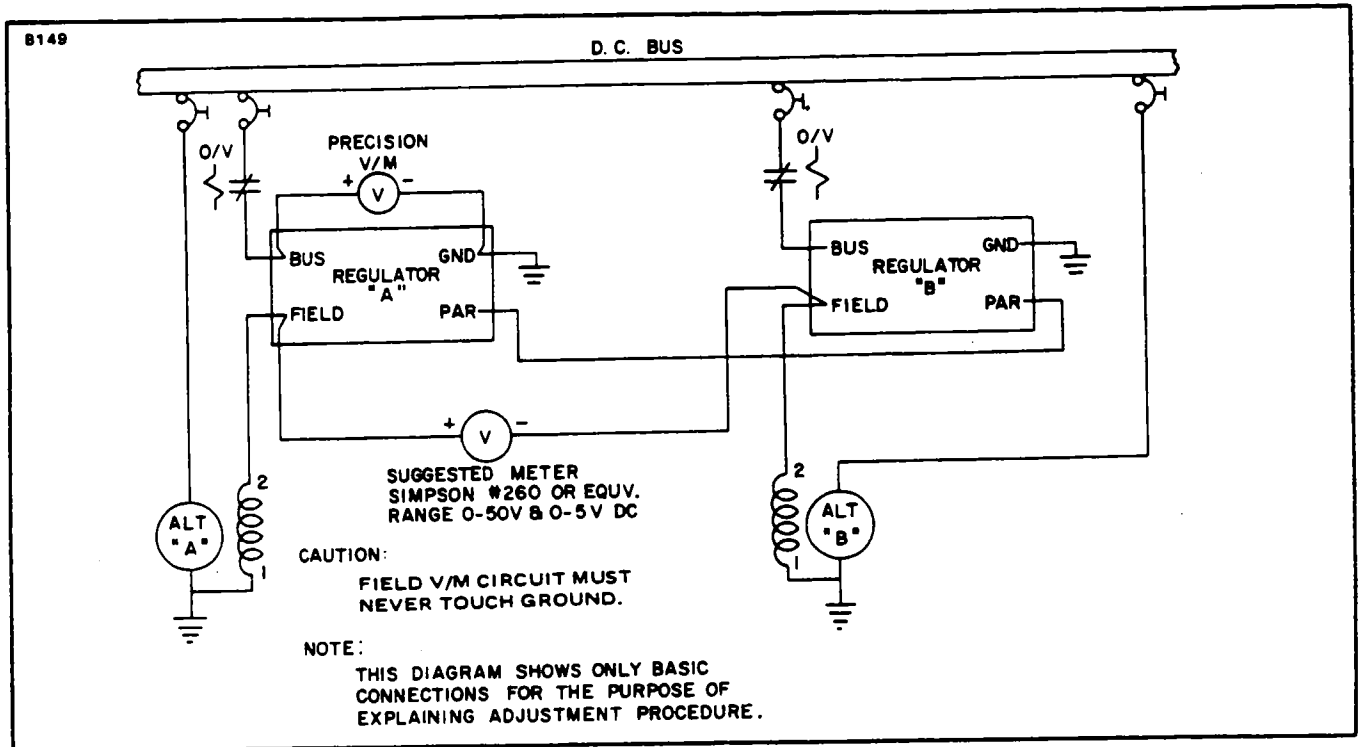

Figure 11-13b. Adjusting Regulator (Paralleling System)
a. These regulators are normally used in parallel alternator systems of multi-engine aircraft. Their final adjustment should be made in actual operation in the aircraft system with test equipment connected as shown in Figure 11-13b. The balance adjustment is made while operating only one engine, either left or right. The engine to be operated must be selected so as to permit the technician a completely safe access to both of the regulators, so that they may be adjusted without danger while the engine is operating. We shall designate the engine selected to be operated as "RIGHT" and the inoperative engine as "LEFT."